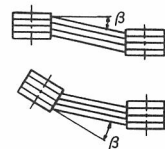

Fig.8
- The parallelism and eccentricity ( $\beta$ ) between two pulleys should be within  $20'$ . (Fig.8)